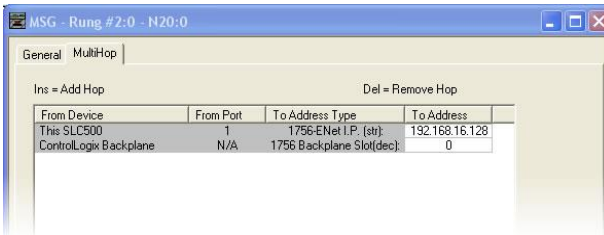

Figure 65: MSG Configuration, "MultiHop" Tab
- e) Under the "MultiHop" tab settings, set the "To Address" in the first row to the inverter's IP address, and the "To Address" in the second row to 0. Refer to Figure 65.